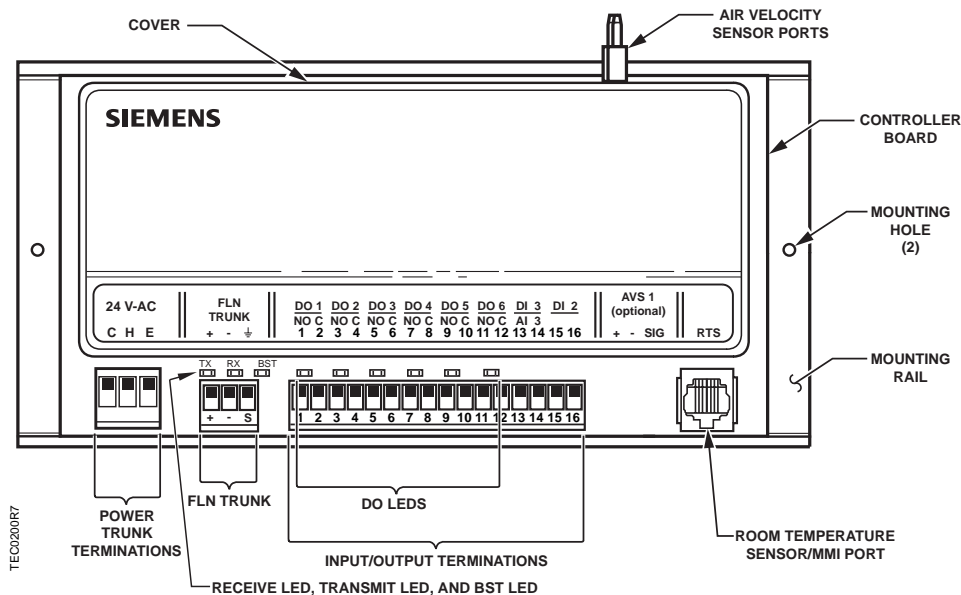

Figure 1. Dual Duct Controller with One Air Velocity Sensor — Electronic Output.
1. Secure the mounting rail (Figure 1) in the controller's desired location.
7. Plug the room temperature sensor cable into the RTS port (Figure 1).